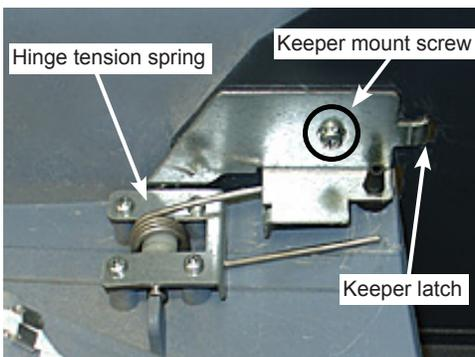

Figure 9. Primary components of the hinge keeper
3. Refer to Figure 9. Allow the hook end of the keeper latch to release from the latch holes on the left and